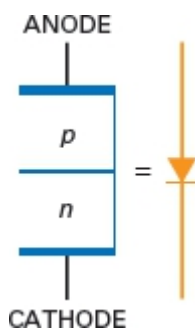

Figure-11 Schematic symbol
- Figure-11 shows the pn structure and schematic symbol of a diode.